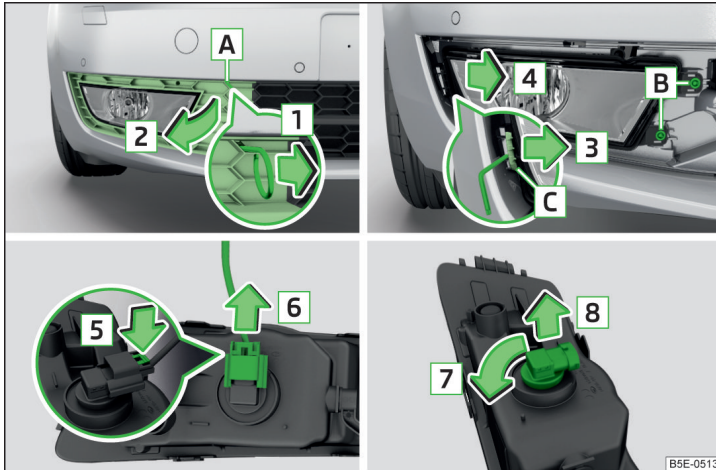

Fig. 240 Remove the fog lamp / bulb change - Version 1
- Insert in opening **A** » Fig. 240 the clamps for removing the full wheel covers » page 208, *Vehicle tool kit*.
- Replace the fog light by inserting it in the opposite direction of the arrow **4** » Fig. 240 and tighten.